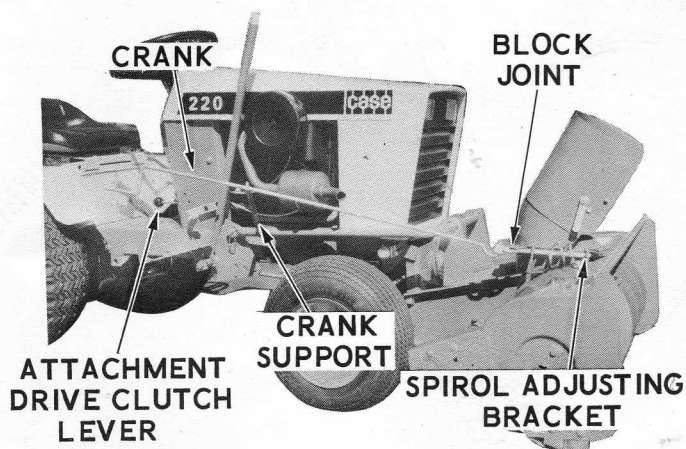

Figure 15.
11. Thread the handle end of the crank through the crank support and connect the block joint to the crank spiroil using the plain washer and cotter pin provided. (See Figure 15.)
15. See Figure 15. Check the operation of chute crank. If the chute should turn hard, check to see if the crank spiroil is binding in the chute notches. If necessary, loosen the spiroil adjusting bracket bolt and shift the bracket to relieve the bind. Tighten the bolt following adjustment.